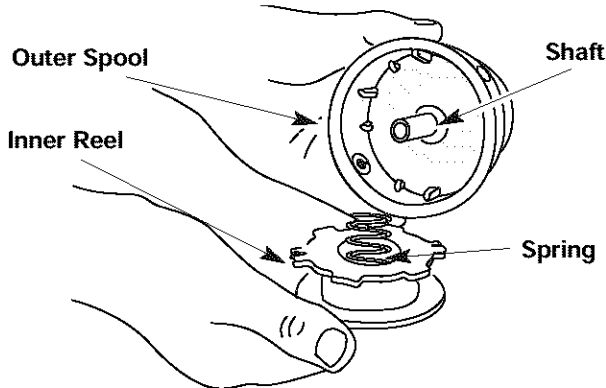

Fig. 17
2. Remove the inner reel from the outer spool (Fig. 17).
3. Remove spring from the inner reel (Fig. 17).
2. Remove the old inner reel from the outer spool (Fig. 17).
3. Remove the spring from the old inner reel (Fig. 17). Use a clean cloth to clean the spring, shaft, and inner surface of the outer spool.